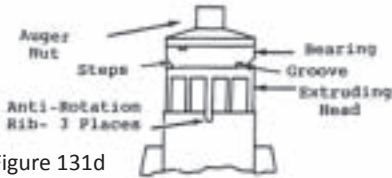

Figure 131d
- 5. When replacing the auger assembly, make certain that both the auger engages the drive pin and the extruding head ribs engage the evaporator tube (see figs. 131d and 131e).
- A. After the unit is disassembled, check all the parts for wear and discard worn parts. Replace bad parts with new, authorized parts only. (See fig. 131d.)